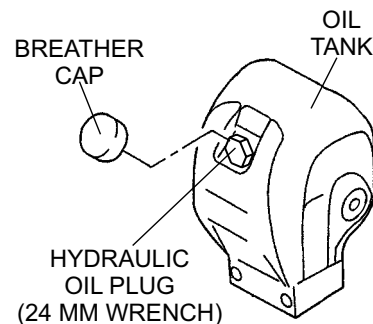

**Figure 34. Hydraulic Oil Cylinder/Hose**
1. Disconnect the hydraulic hose (Figure 34) connected to the hydraulic oil cylinder.